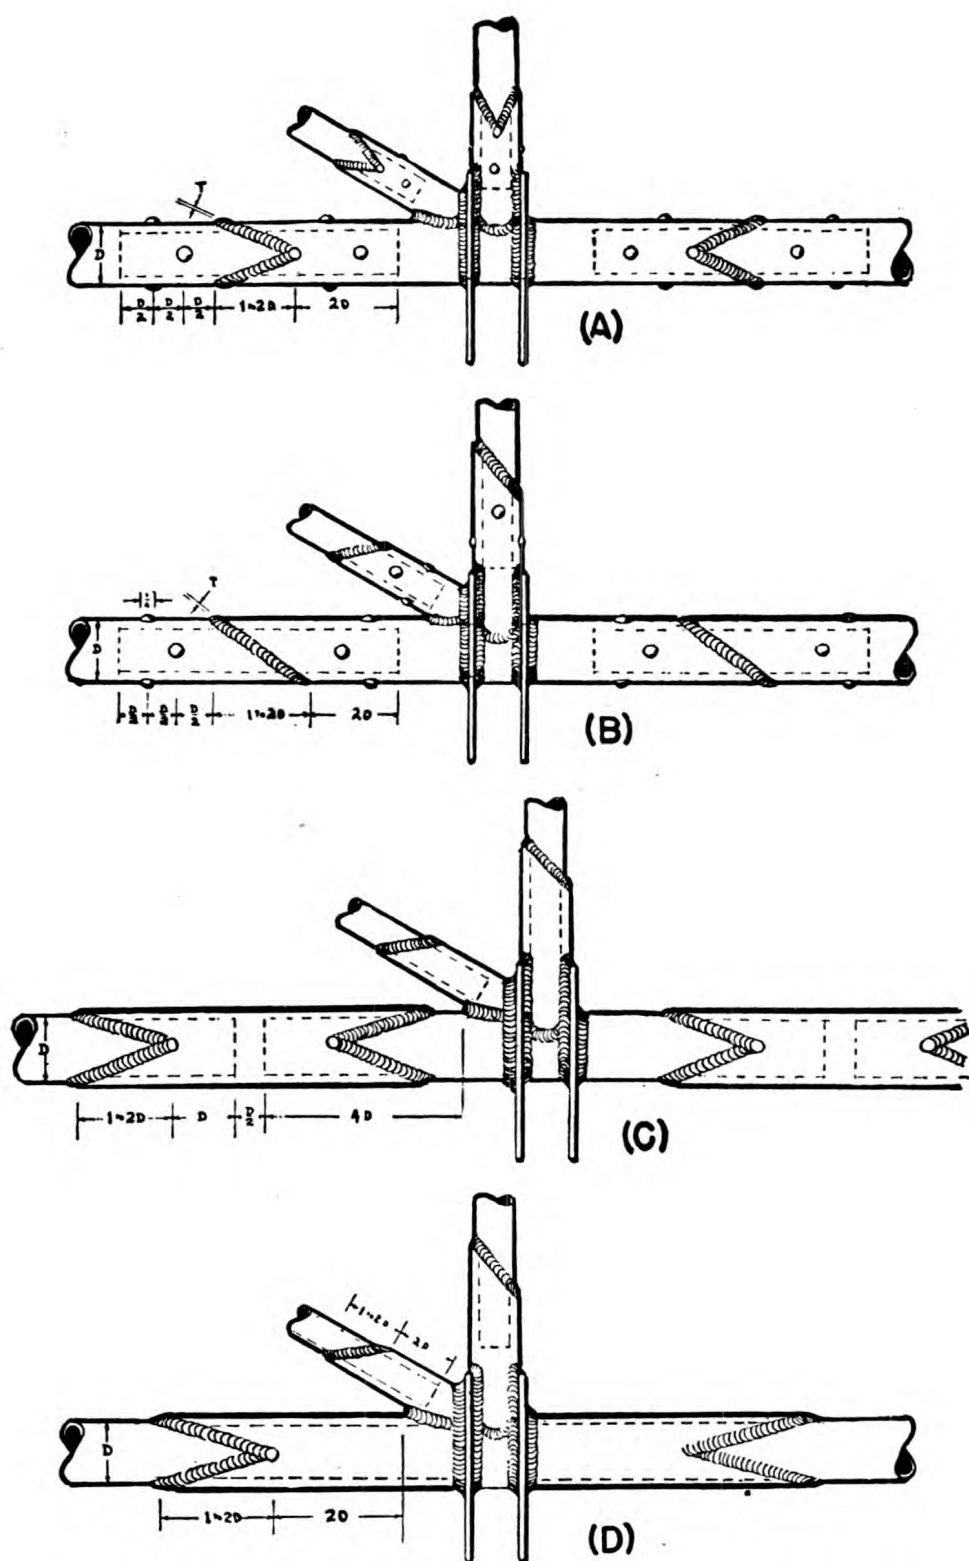

Figure 65.—Methods of replacing members to which fittings are attached.
In figure 65 you see such a repair job. Here a new fitting has been welded to a section of tubing and then the whole section spliced to the original members. Drawings (A) and (B) of figure 65 show how it is done with internal sleeve reinforcement. Drawing (C) shows how it is done by the external sleeve splice method, and (D) by the external replacement tube method.